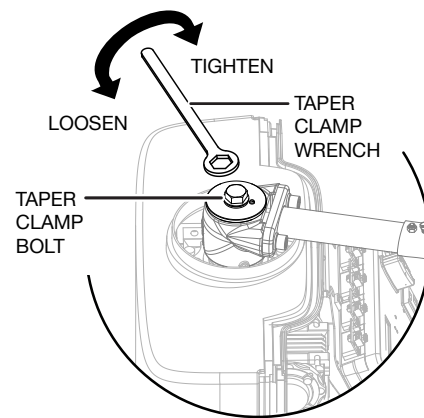

Figure 20. Loosen the Taper Clamp
1. Loosen the taper clamp bolt with the taper bolt wrench to allow the gate and arm assembly to rotate freely (Figure 20).